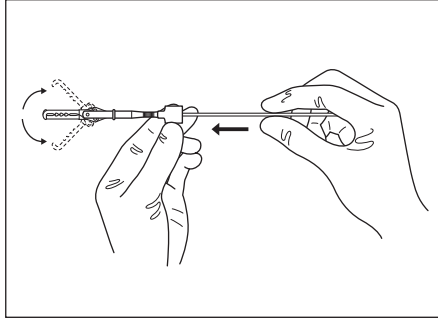

Figure 3.3
1. Pinch the clamping ring at the distal end of the alligator unit with your fingers, move the control wire to the front and rear and confirm that the forceps section opens and closes (see Figure 3.3).